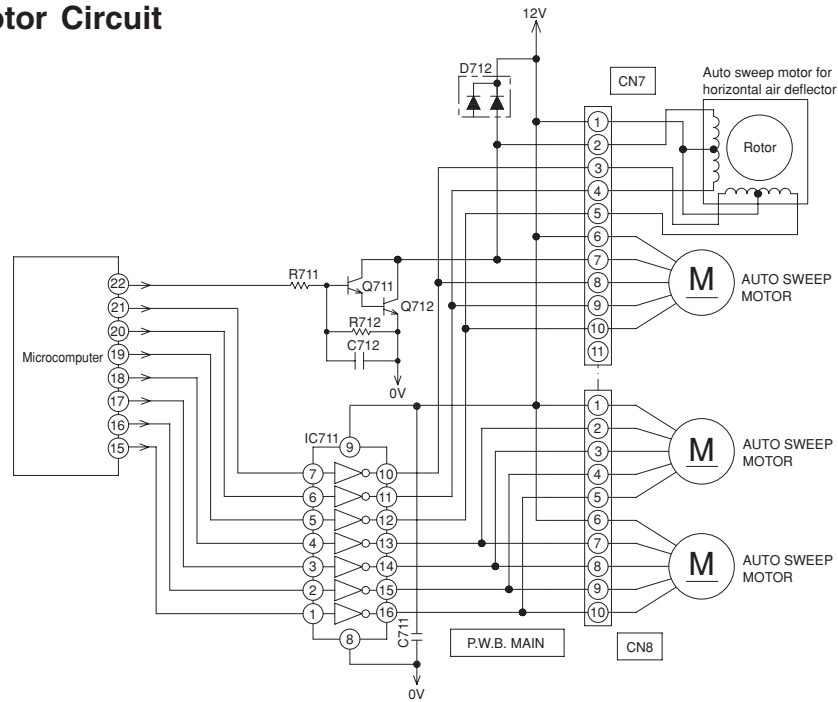

Fig.4-1
- Fig. 4-1 shows the Auto sweep motor drive circuit; the signals shown in Fig.4-2 are output from pins ⑮ – ㉒ of microcomputer.